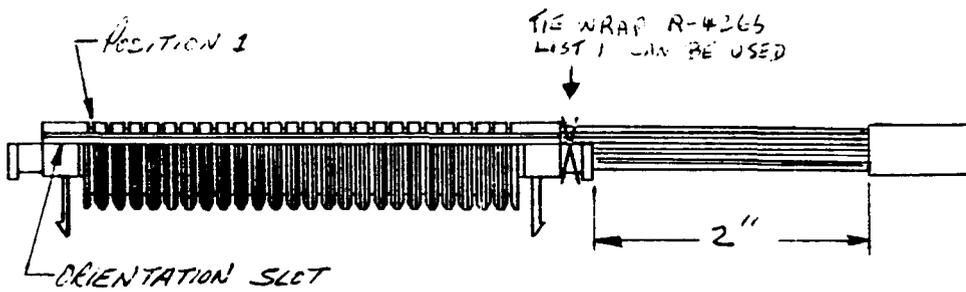

FIG 9
- a) Dress cable (one binder) into I.O. CAP and tie per Fig. 9.
- b) Repeat Steps 5.4b, c, d and e also 5.41, 5.42 and 5.43 except that dress is from right side per Fig. 9.